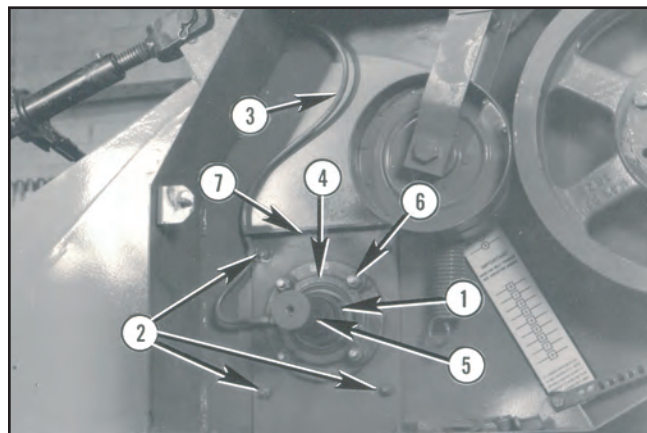

FIGURE 74
- If washers are not as stated above, it will be necessary to remove outer bearing. See Figure 74, page 31 and add, or subtract, washers. Two inch nominal I.D. washers are available as part numbers: